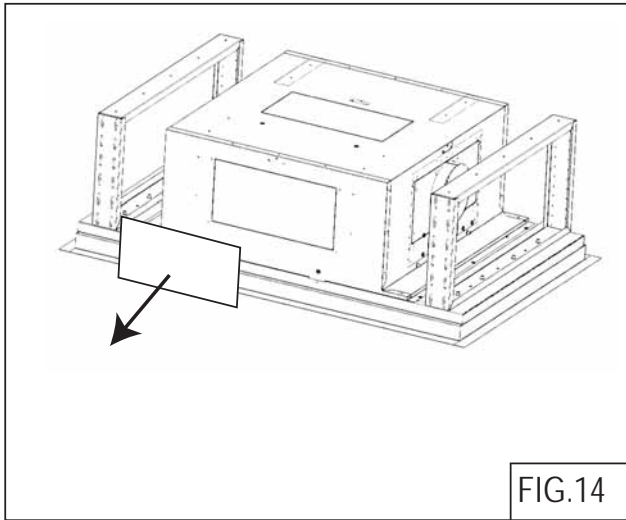

FIG.14
2. Remove knockout plate for only one chosen duct outlet position. FIG. 14